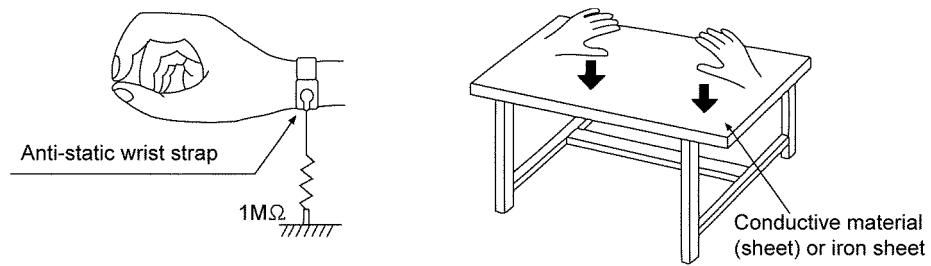

Figure 2
1. Put a conductive material (sheet) or iron sheet on the area where the optical pickup is placed, and ground the sheet. (Figure 2)
1. Use the anti-static wrist strap to discharge the static electricity form your body. (Figure 2)